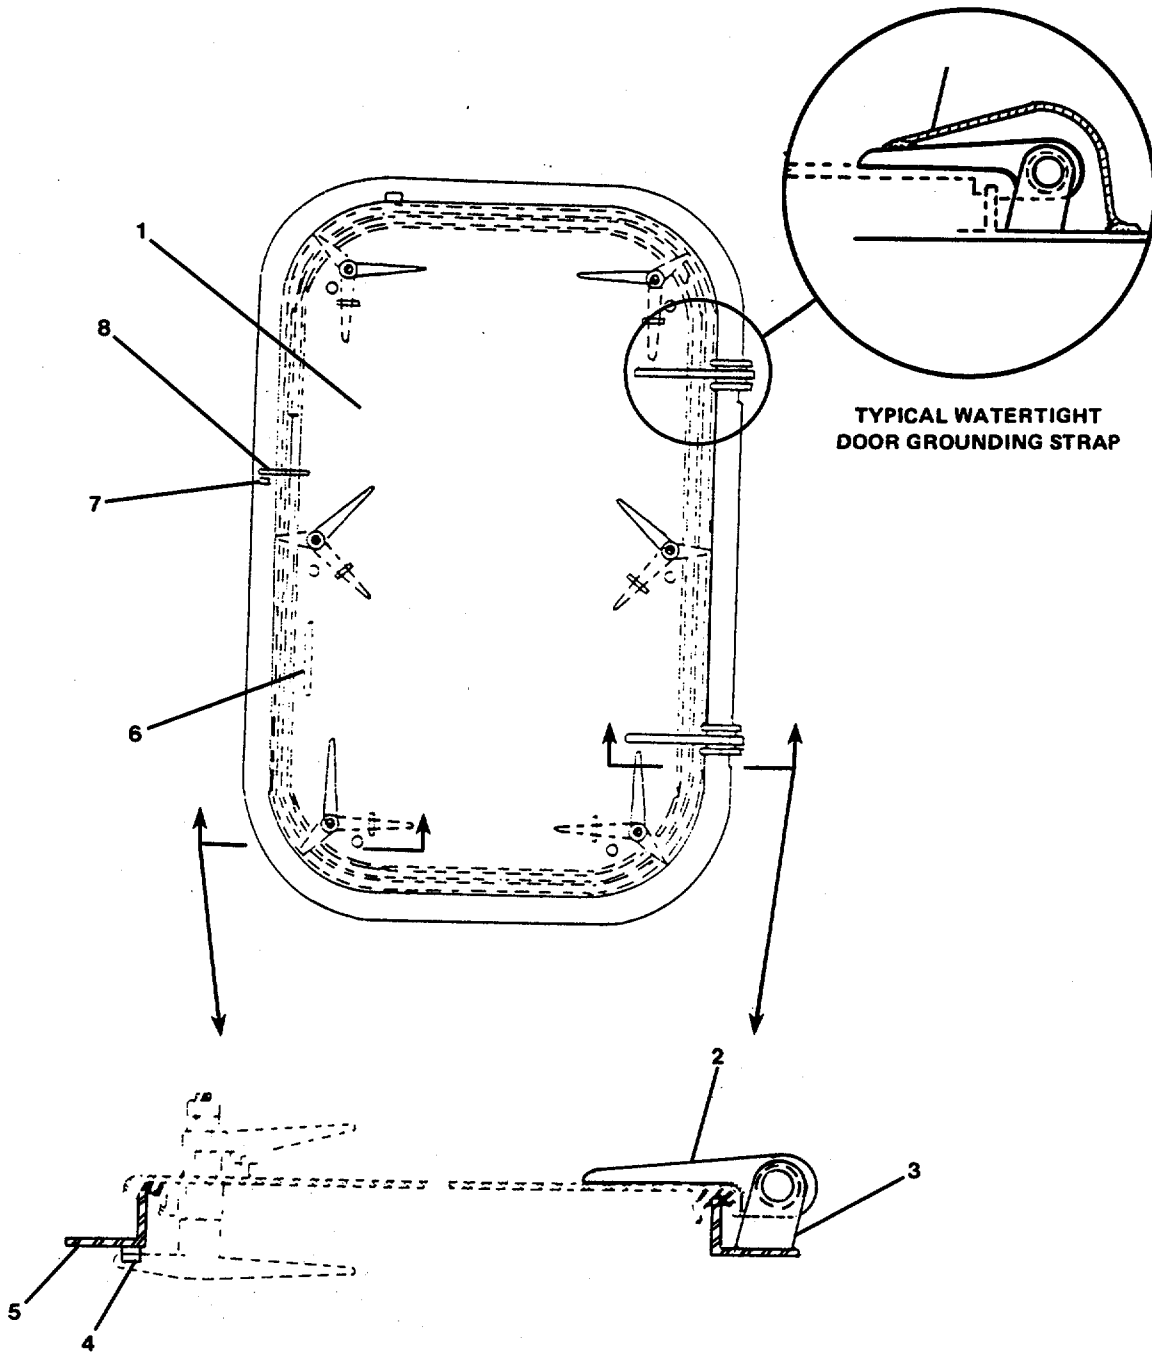

FIGURE 3-169. *Repair Watertight Door (30 x 51).*
- a. Install frame angle (5) and wedge (4) on door (1).
- b. Install hinge pad (3) and hinge blade (2) on door.
- c. Install grab handle (6) on door.
- d. Install hasp (7) and eye (8) on door.
- e. Install fixed light assembly (9) on door.
**3-186. Repair Watertight Door (30 x 51). (Figure 3-169)**